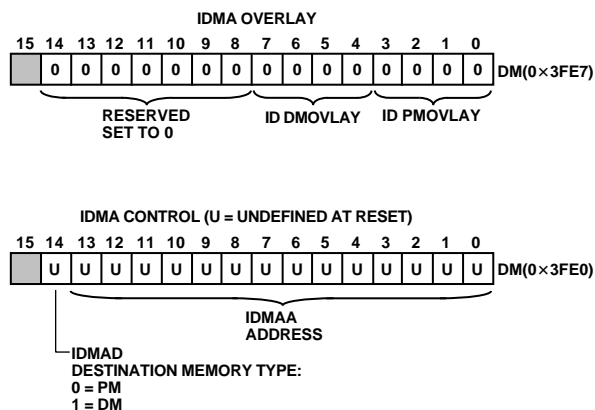

Figure 8. IDMA Control/OVLAY Registers
Through the IDMAA register, the DSP can also specify the starting address and data format for DMA operation. Asserting the IDMA port select (IS) and address latch enable (IAL) directs the ADSP-2187L to write the address onto the IAD0–14 bus into the IDMA Control Register. If  $IAD[15]$  is set to 0, IDMA latches the address. If  $IAD[15]$  is set to 1, IDMA latches OVLAY memory. The IDMA OVLAY and address are stored in separate memory-mapped registers. The IDMAA register, shown below, is memory mapped at address DM (0x3FE0). Note that the latched address (IDMAA) cannot be read back by the host. The IDMA OVLAY register is memory mapped at address DM (0x3FE7). See Figures 8 and 9 for more information on IDMA and DMA memory maps.